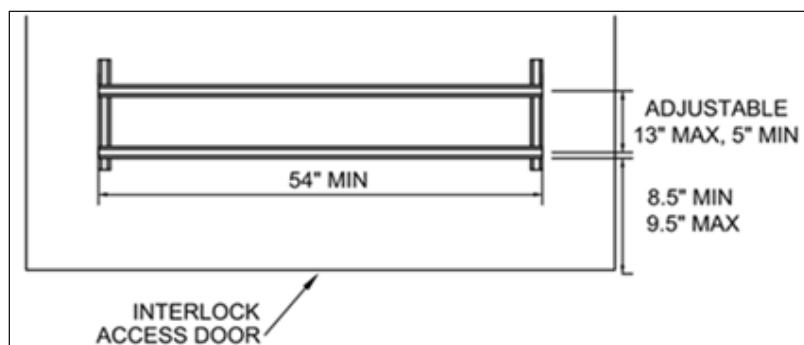

Figure 18. VT Mounting for 12.47 kV and 34.5 kV (STD-M-3003)
- VT mounting base spacing must meet the requirements of EUSERC 407, as shown in Figure 18.
- For 12.47 kV services, the VT compartment are required to meet the clearances shown in Figure 18.